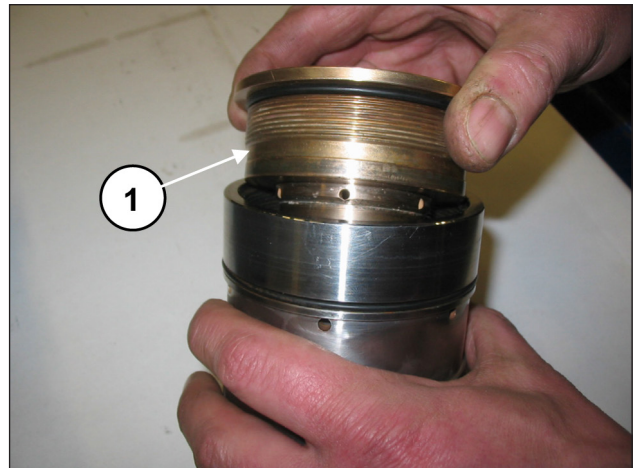
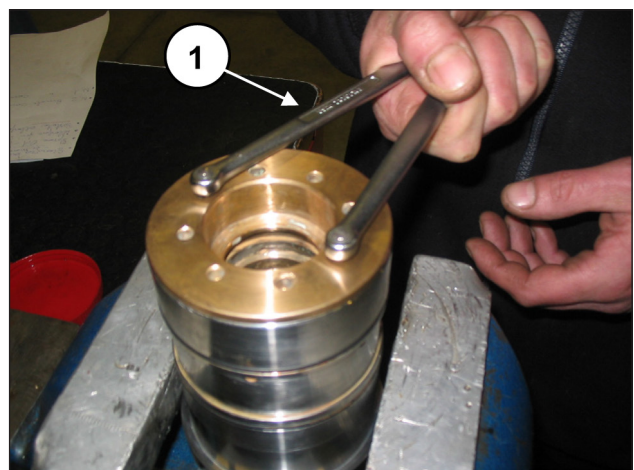

Fig. 154
Fig. 155
Screw the gasket support to the liner (pos. ①, Fig. 154) and tighten using a compass spanner with Ø5 round ends, available on the market (pos. ①, Fig. 155) until the support abuts the liner.